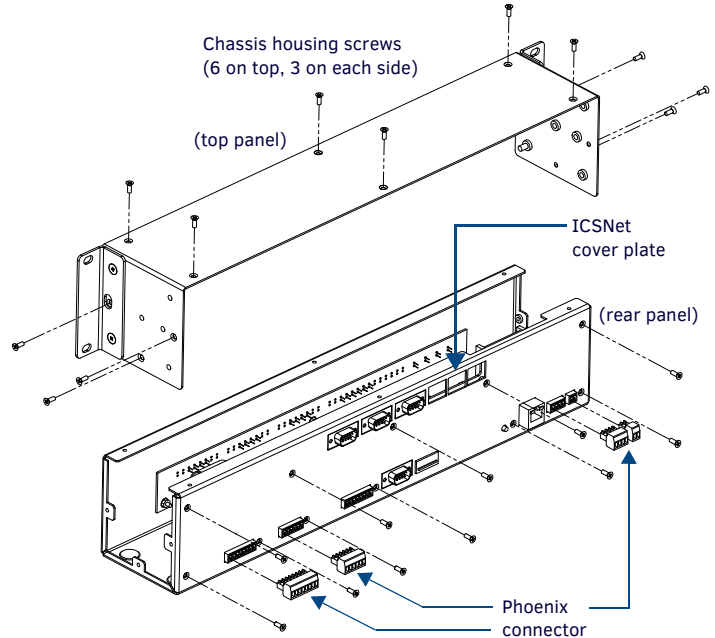

FIG. 3 CHASSIS AND MOTHERBOARD REMOVAL OVERVIEW FOR NI-2100 AND NI-3100 UNITS
1. Carefully detach all connectors from the rear of the unit (see FIG. 3).
2. Remove the chassis housing screws from both the sides and top of the NI-2100/3100 Controllers, as shown in FIG. 3 by using a grounded screwdriver.
1. Outside the chassis, remove all Phoenix connectors. (FIG. 3)
3. Outside the chassis, remove the eleven screws securing motherboard to chassis, and carefully remove the motherboard. (FIG. 3)
2. Fasten with 11 mounting screws. See FIG. 3.
2. Insert and secure the chassis housing screws back into their respective locations on both the sides and top of the NI-2100/3100 Controllers, as shown in FIG. 3 by using a grounded screwdriver.
- Re-install the mounting brackets by using a grounded screwdriver to resecure the two sets of screws securing these brackets (FIG. 3).